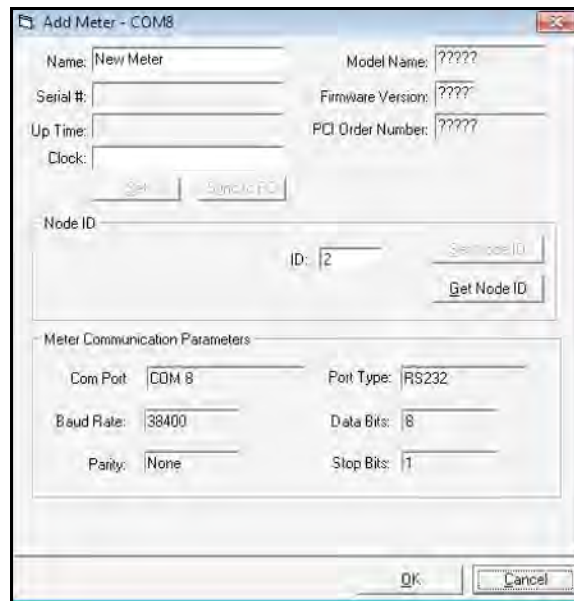

Figure 5: Add Meter Name and Serial Number
6. Enter the *Name* and *Serial Number* and click **OK** on the next screen (see *Figure 5* below) to add the PT878 as a new meter. PanaView will automatically upload the required system parameters into its database. The PanaView setup is now complete.